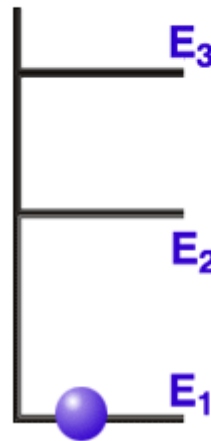

Fig. 10
(26) The coherent light of the laser is produced by a "stimulated-emission" process (Figure 10). In this case, the excited atom is stimulated by an outside influence to emit its energy (photon) in a particular way.
Note: Based on suggestions from Mike Leeming, this discussion on stimulated emission will be expanded in the revised version to be more detailed, will connect more closely with amplification, and will involve two diagrams for Figure 10, showing clearly the situation of photons/energy levels before interaction and photons/energy levels after interaction. (Mike Leeming)